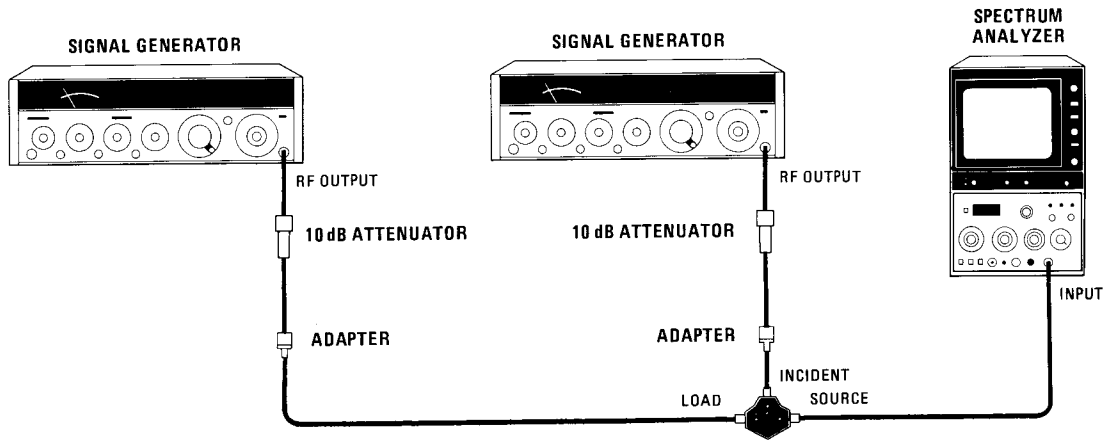

Figure 4-15. Intermodulation Distortion Test Setup
13. Connect equipment as shown in Figure 4-15 and repeat step 1, setting TUNING control to 30 MHz, rather than 50 MHz.